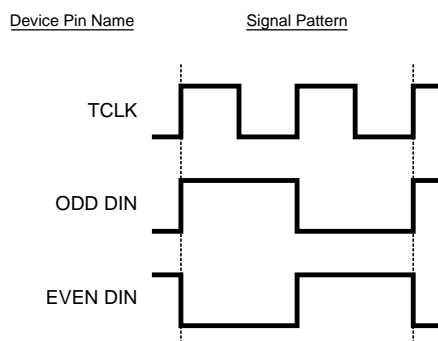
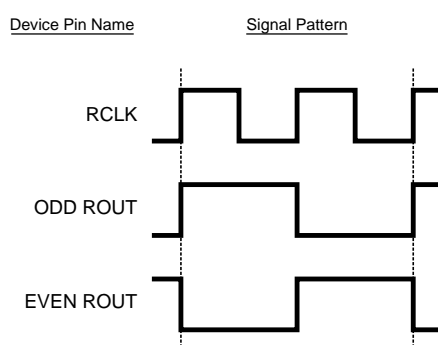
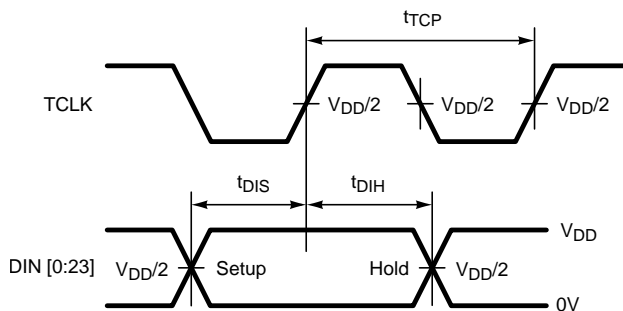
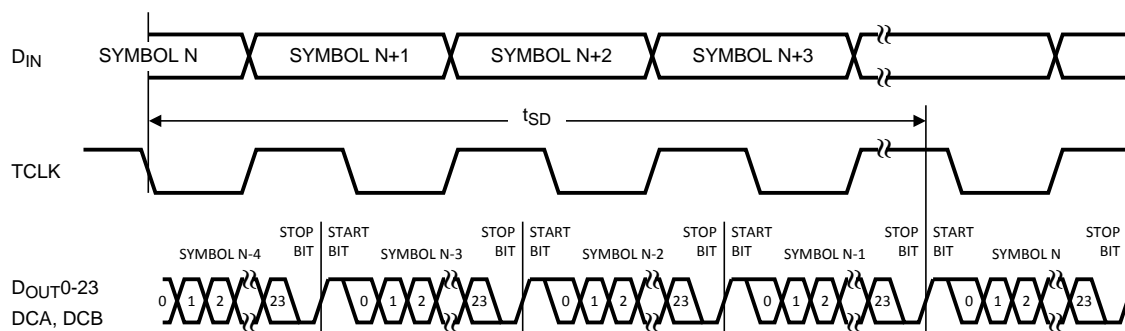

Figure 1. Serializer Input Checkerboard Pattern
Figure 2. Deserializer Output Checkerboard Pattern
Figure 5. Serializer Setup/Hold Times
Figure 8. Serializer Delay
(4) Figure 1, Figure 2, Figure 8, Figure 12 and Figure 14 show a falling edge data strobe (TCLK IN/RCLK OUT).
(1) Figure 5, Figure 15 and Figure 16 show a rising edge data strobe (TCLK IN/RCLK OUT).
(2) Specification is guaranteed by characterization and is not tested in production.
(3) t_{JIT} (@BER of 10e-9) specifies the allowable jitter on TCLK. t_{JIT} not included in TxOUT_E_O parameter.
(1) Specification is guaranteed by characterization and is not tested in production.
(2) Figure 5, Figure 15 and Figure 16 show a rising edge data strobe (TCLK IN/RCLK OUT).
(3) When the Serializer output is at TRI-STATE the Deserializer will lose PLL lock. Resynchronization MUST occur before data transfer.
(5) t_{JIT} (@BER of 10e-9) specifies the allowable jitter on TCLK. t_{JIT} not included in TxOUT_E_O parameter.
(6) UI – Unit Interval, equivalent to one ideal serialized data bit width. The UI scales with frequency.
(7) TxOUT_E_O is affected by pre-emphasis value.
(3) Figure 1, Figure 2, Figure 8, Figure 12 and Figure 14 show a falling edge data strobe (TCLK IN/RCLK OUT).
(4) t_{DSR} is the time required by the Deserializer to obtain lock when exiting powerdown mode.
(5) RxIN_TOL is a measure of how much phase noise (jitter) the Deserializer can tolerate in the incoming data stream before bit errors occur. It is a measurement in reference with the ideal bit position, please see AN-1217 (SNLA053) for detail.